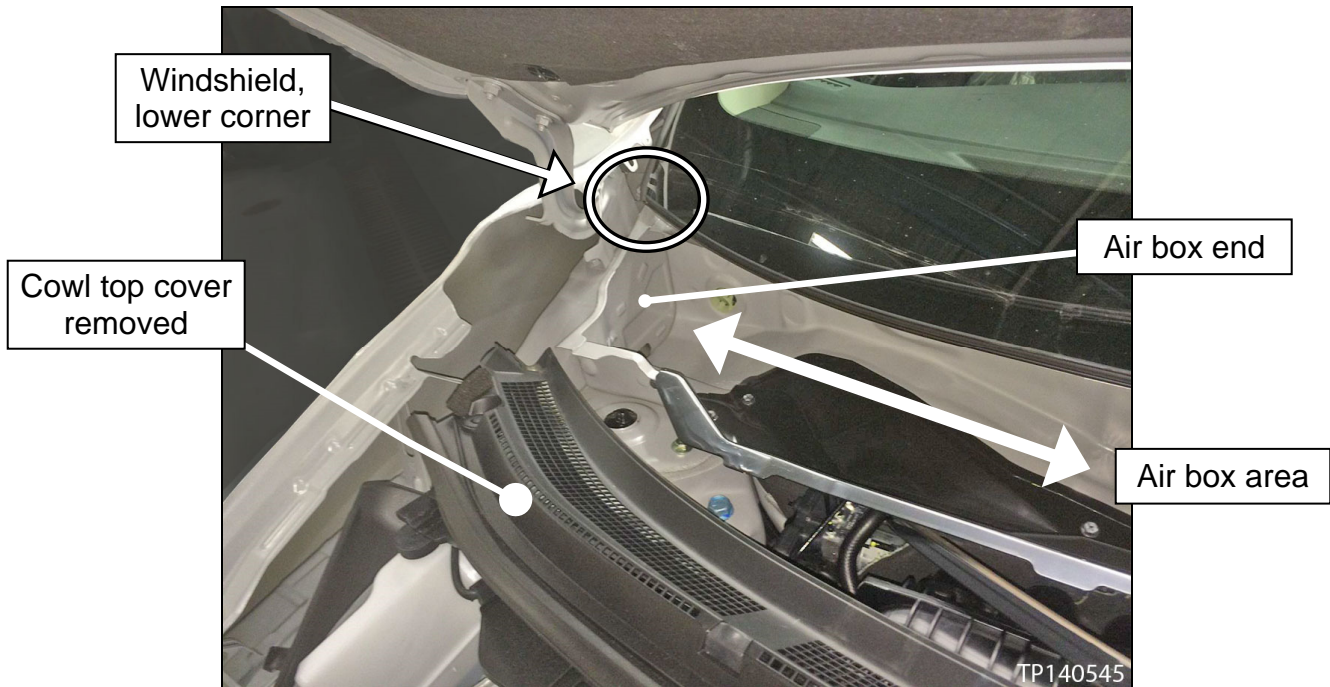

Figure 3: View of passenger side. Driver side similar.
1. Remove the cowl top cover (see Figure 3).